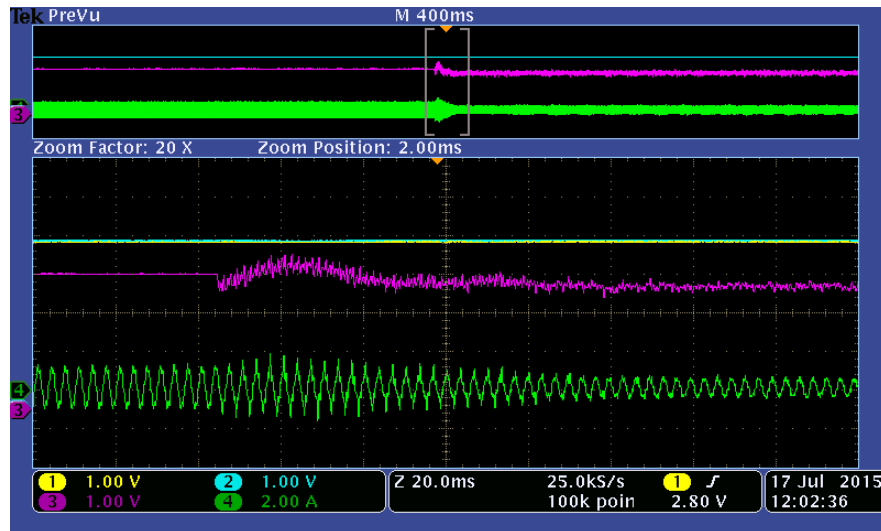

Figure 5: Successful switch from Align&Go to Estimator mode
- 4) Once the Align&Go is tuned properly, the Close Loop checkbox can be selected so that the firmware proceeds to switch to Estimator mode. If the speed controller is not tuned yet, it is possible to proceed in Torque Mode instead of Speed Mode. The switch to Estimator mode is shown in Figure 5 below.